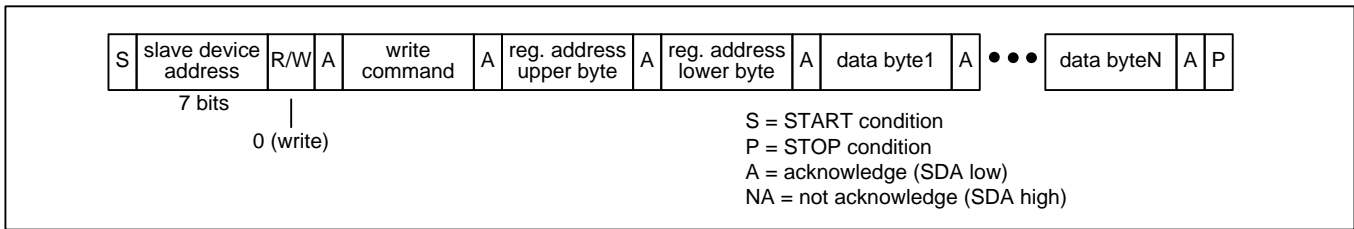

Figure 16 – I2C Register Write Transaction Functional Timing
**Register Write Transactions.** The device registers are accessible when  $EESEL=0$ . The bus master does an I2C write to the device. The first three bytes of this transaction are the SPI Write command (see Table 4), the upper byte of the register address, and the lower byte of the register address. Subsequent bytes are data bytes to be written. After each data byte is received, the device writes the byte to the write address and then increments the write address. The bus master terminates the write with a STOP condition (P). See Figure 16.